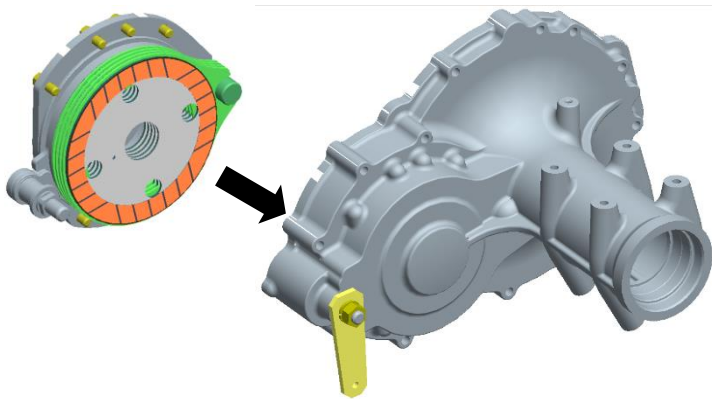

Fig. 7-7
- 3) Metal Brake cover tightening bolts should be tightened to the specified torque with a torque wrench. (Fig.7-7)